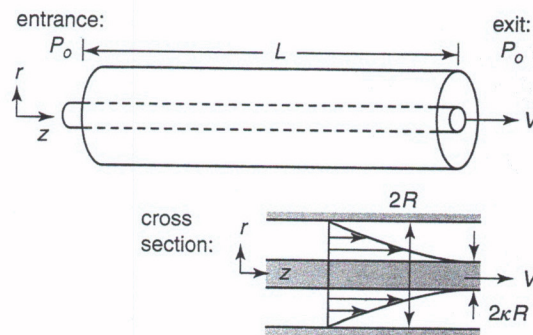

Figure 3.39
32. For the cylindrical coordinate system shown in Figure 3.39 for the axial flow in a wire-coating operation, what is a unit vector in the direction of gravity? What is the component of gravity in the flow direction?